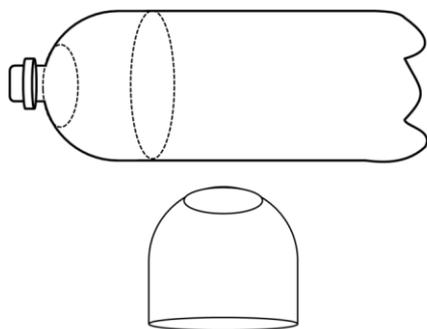
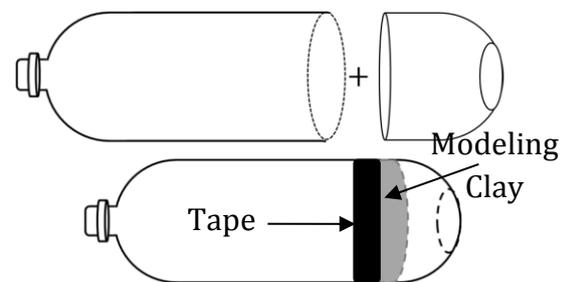

Figure 27. Cut the top part of the second bottle and remove the nozzle as shown in the figure.
Figure 28. Nose cone attached to the body of the rocket. Modeling clay is applied before attaching the nose. The nose is finally securely taped using duct tape.
14. For the nose cone, take the second bottle and cut the top part according to the instruction given in Fig. 27. You can improve the nose cone and as a consequence improve the rocket's stability during flight by applying 50 gr of modeling clay at the bottom of the bottle (see Fig. 28) which acts as ballast. Once the nose cone is pushed over the rocket's body and taped securely you can put a vinyl bag inside the nose cone. The vinyl bag acts as cushion and prevents the nose cone from damaging when the rocket returns to the ground. Finally, seal the nose cone opening using duct tape.